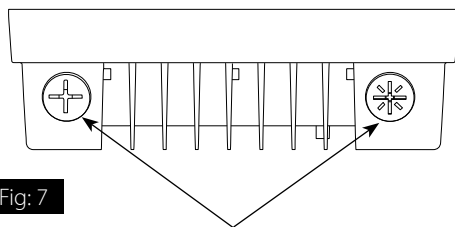

Fig: 7
Universal voltage driver permits operation at 120V thru 277V, 50 or 60 Hz. For 0-10 Dimming, follow the wiring directions as shown in Fig. 7.
1. Remove **Selector Switch Caps** by turning counterclockwise using a flat head screwdriver (*Fig. 7*).